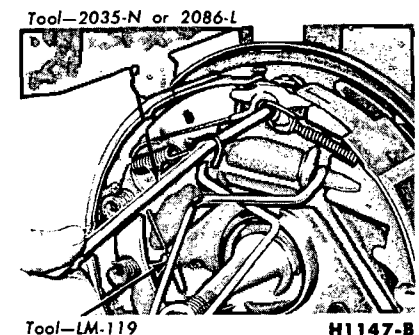

FIG. 14—Retracting Spring Installation—Typical
5. Place the cable eye over the anchor pin with the crimped side toward the backing plate. Install the primary shoe to anchor spring with the tool shown in Fig. 14.